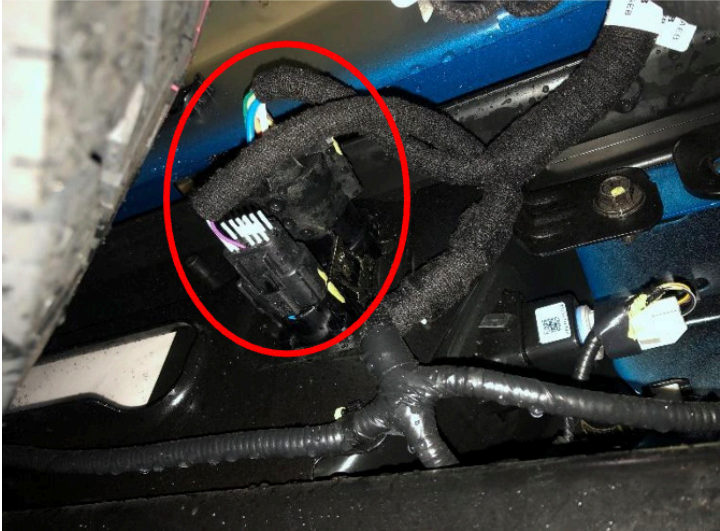

Figure 1
1. Remove license plate and OEM license plate lights from the bumper. Disconnect trailer plug and sensor harness plugs from the sensors, and license plate lights so that the harness is no longer attached to the OEM bumper. Figure 1.